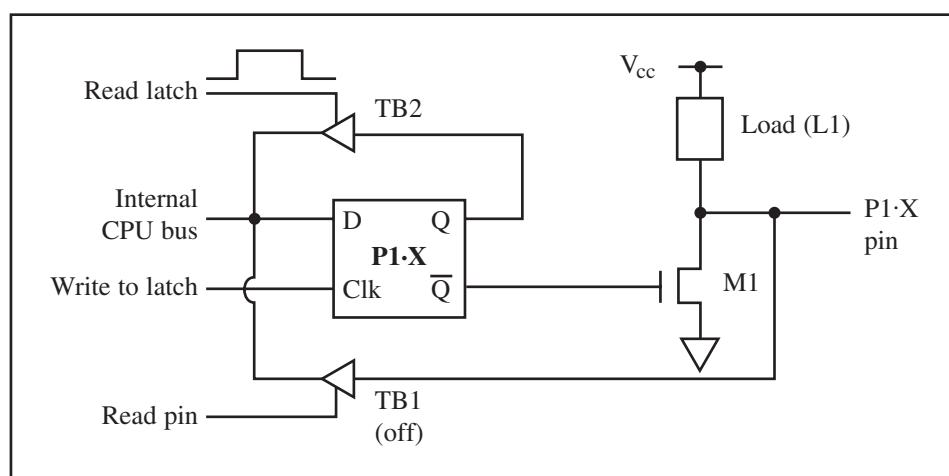

Figure 17. Reading the Latch
1. The read latch activates the tri-state buffer of TB2 (see Figure 17) and brings the data from the Q latch into the CPU.